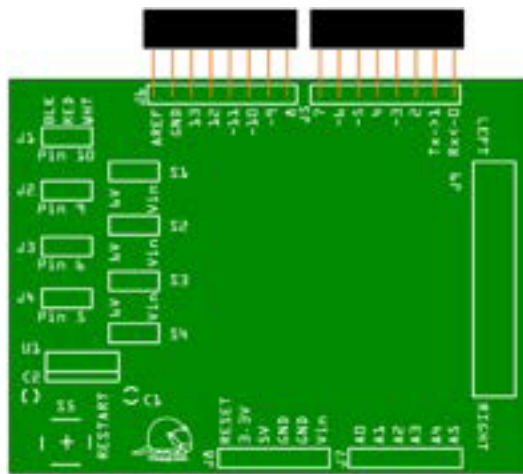

Figure HT3-4. Location to insert 8-pin stacking headers
2. Insert the two 8-pin stacking headers into the positions marked J5 and J6, as shown in Figure HT3-4. Solder on bottom of the board.